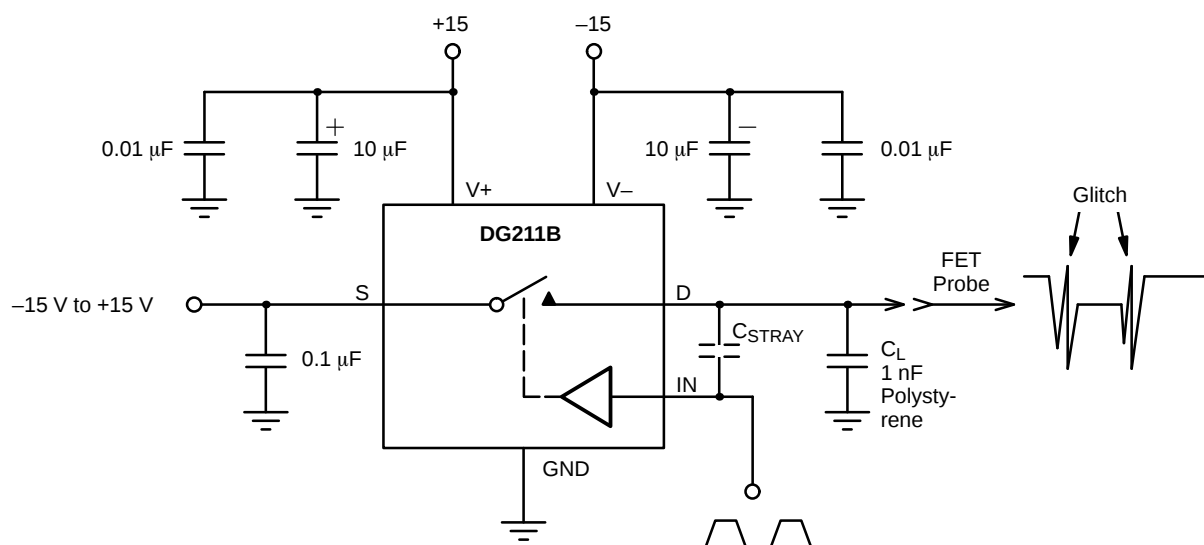

FIGURE 4. Charge Injection Test Circuit
Charge current (I) can be reduced if dv is reduced, where dv is the logic control signal amplitude. Note, for example, the reduction of current injected into the hold capacitor (C_L) shown in Figure 4. A proper ground plane separation or guard, as well as logic clamping, can substantially reduce the charge injection caused by C_{STRAY} . A single point ground (with digital and analog grounds separated), or a ground plane, should be used to reduce ground loops and switching noise. Figure 6a depicts the "B" series actual hold-step of 9 mV with +2 V at the source. Maxim's best currently available equivalent device, for example, offers a 14-mV hold-step (Figure 6b) measured at turn-off. To achieve a Q of 1 pC (which is actually 1 mV) using a "B" series device, the voltage at the source should be at ground and the logic amplitude clamped to about +3 V. Or reduce C_{STRAY} . The voltage change can be calculated by: